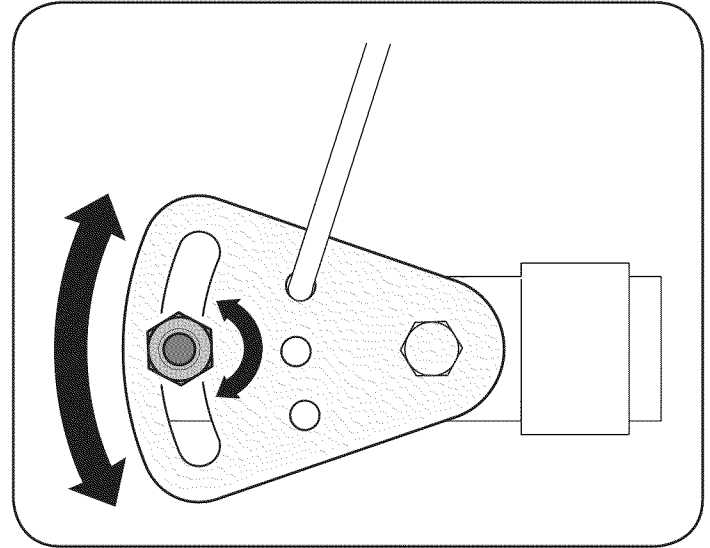

Figure 24
If the full range of speeds (forward and reverse) cannot be achieved, refer to Figure 24 and adjust the shift cable as follows:
2. Loosen the hex nut on the shift cable index bracket. See Figure 24.